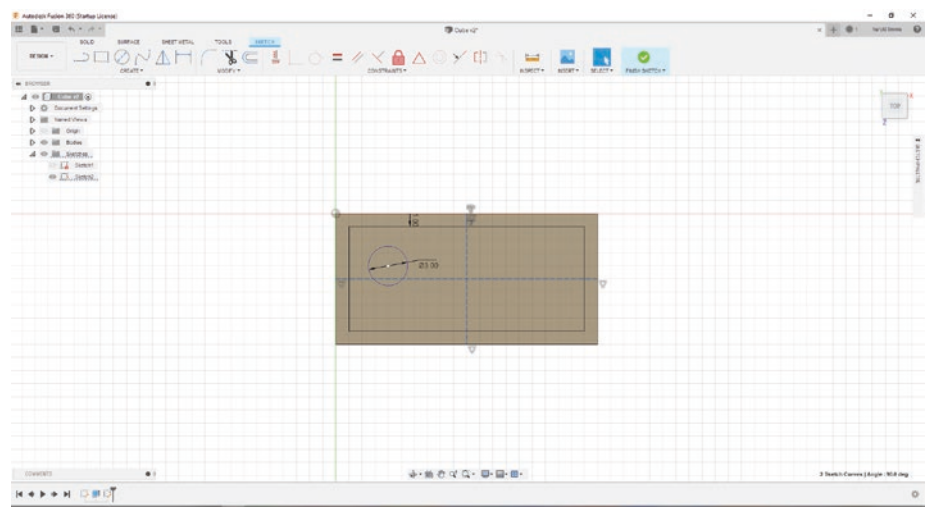

Figure 3-67. Make both the horizontal and vertical center lines construction lines
- 20. Select the two lines you created and press the “x” key. This will make both of those lines construction lines. See Figure 3-67.